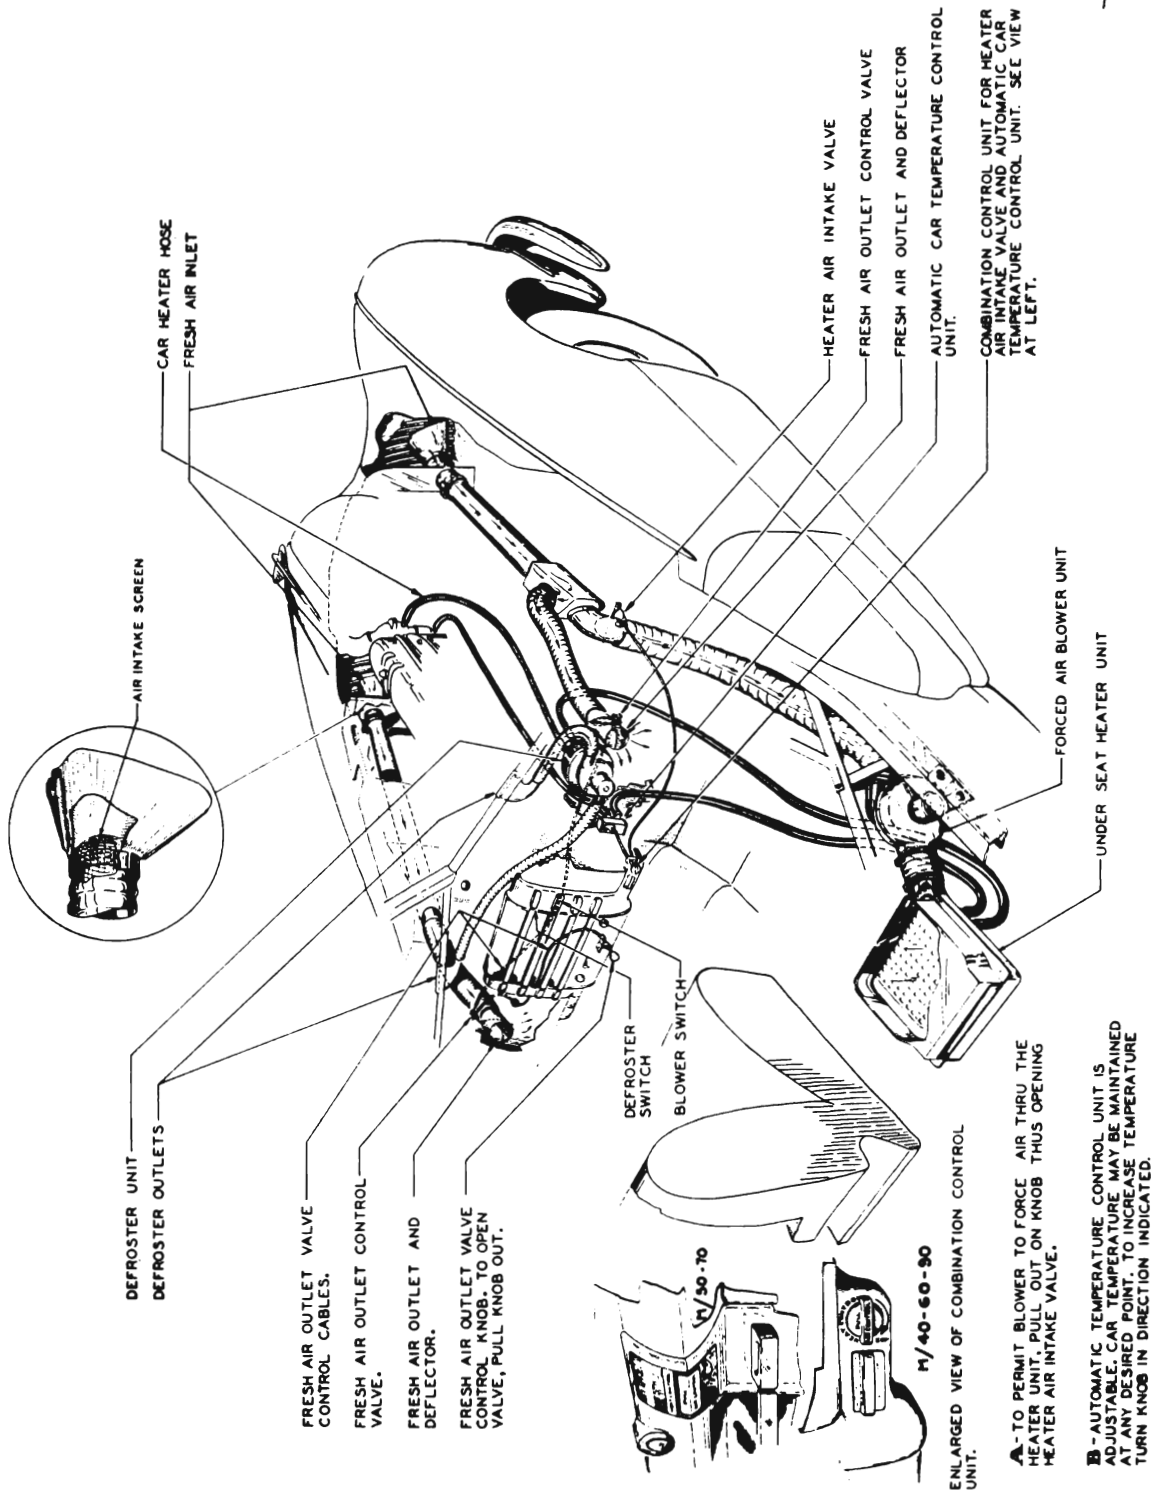

Fig. 14-1. Series 90 Car Heater
- All series present a new car heater, which is standard equipment on Series 90. See Fig. 14-1.